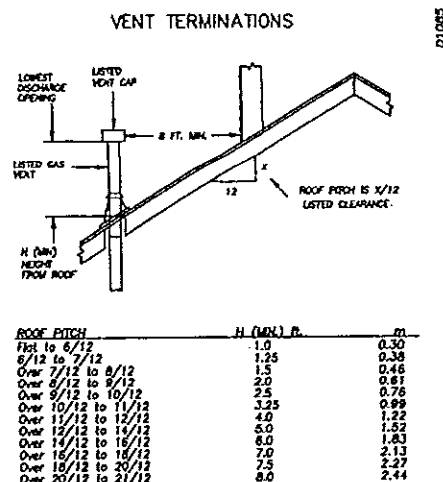

Figure 28 - Vertical Vent Termination Clearances
1. Determine the route that your vertical venting will take. If ceiling joists, roof rafters, or other framing will obstruct the venting system, consider an offset (see Figure 27) to avoid cutting load bearing members. **NOTE:** Pay special attention to these installation instructions for required clearances (air space) to combustibles when passing through ceilings, walls, roofs, enclosures, attic rafters, etc. Do not pack required air spaces with insulation. Also note maximum vertical rise of the venting system and any maximum horizontal offset limitations. Offsets must fall within the parameters shown in Figure 28 and Figure 14 on page 6.
6. Continue to add pipe section(s) until the height of the vent cap meets the minimum building code requirements described in Figure 14, on page 6. Note you must increase the vent height for steep roof pitches, nearby trees, adjoining rooflines and other adjacent factors, which may cause poor drafting or a down-draft condition (see Figure 28, on page 12). Increasing the vent height may solve this problem.